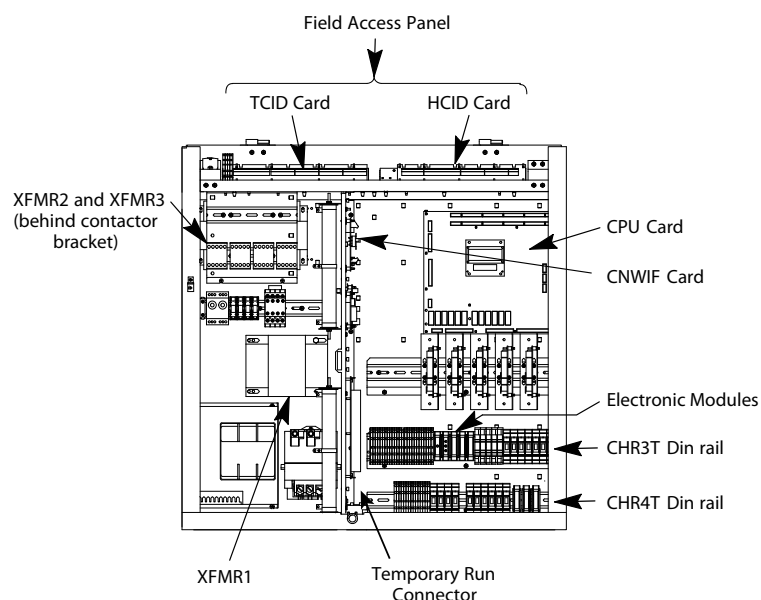

Figure 1 - Controller Component Layout
3. Ensure that the XFMR1 transformer taps match the mainline voltage. See Figure 1 and Table 1 on page 10.